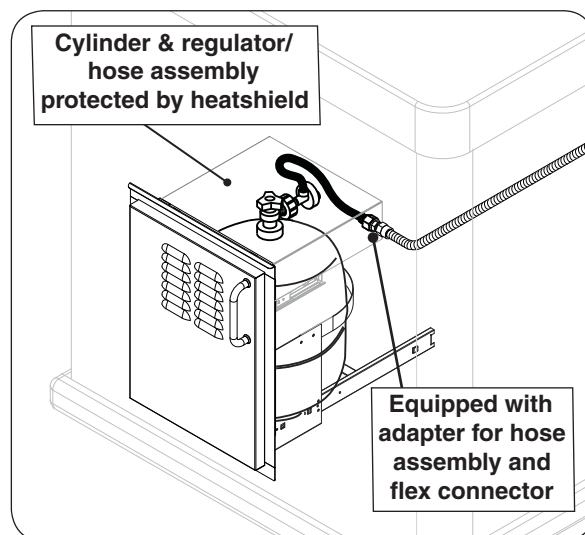

Fig. 11-3 Optional Fire Magic door w/tank tray
- **Fire Magic offers a propane cylinder door with tank tray to meet the cylinder install requirements. See Fig. 11-3.**